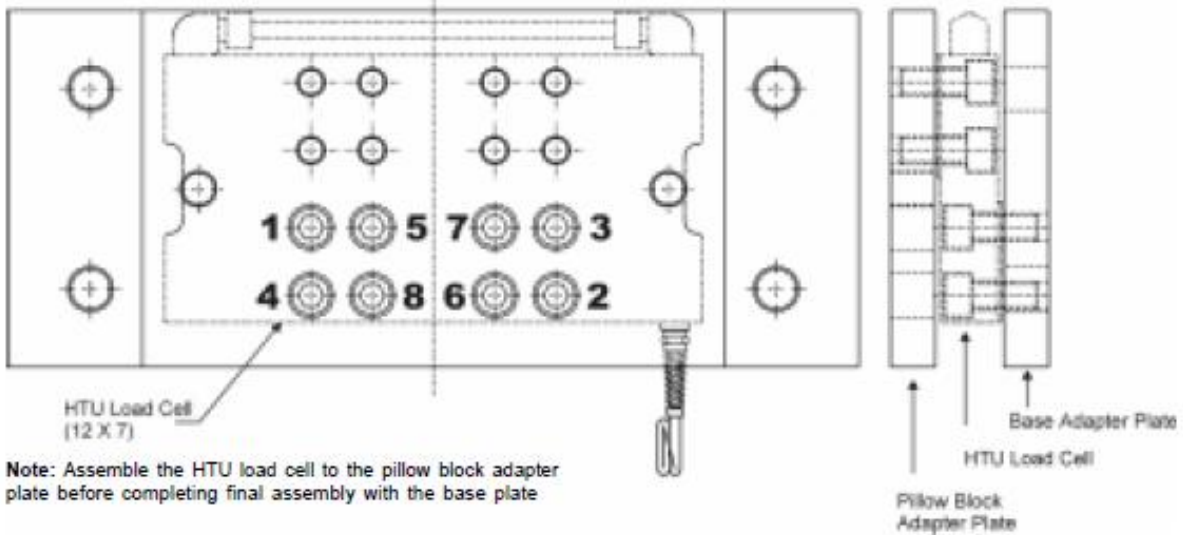

Figure 2-4. HTU to Base Plate Assembly
1. Place the base adapter plate on a clean smooth surface with the threaded holes forward (Figure 2-4).
4. Apply thread locker (BLH P/N 147379) to the remaining (8), 5/8-11UNC-2Ax1^{1/2} inch socket head cap screws.
6. Using the numeric sequence shown in Figure 2-4, torque all bolts to one thousand (1000) inch pounds.
Attaching the HTU to the Frame: Drill and tap holes (5/8-11) in the frame/base according to the pattern shown in Figure 2-4. These holes must be directly in line with the counterbored holes on the HTU transducer (also see Figure 2-1 and 2-1a outline dimensions). Following steps 3 through 6 from the preceding paragraph, bolt the HTU transducer to the frame.